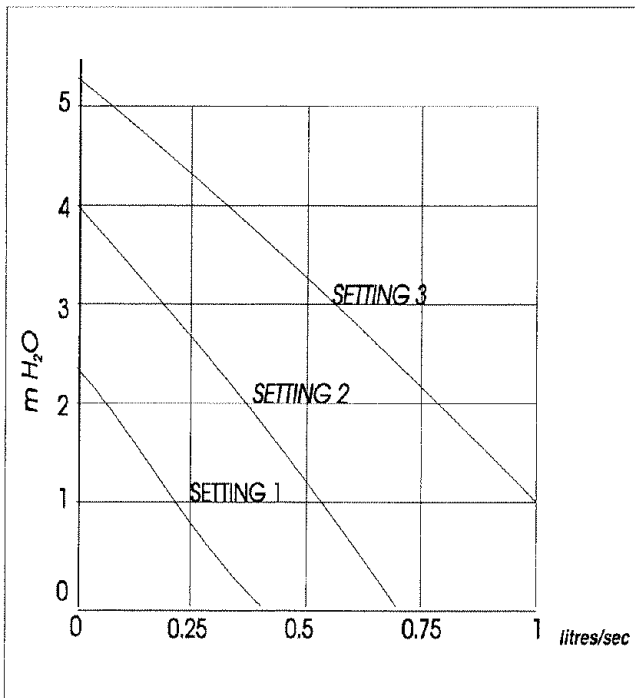

Figure 2.6 Performance Characteristics of Grundfoss UPS 15-50 Pump
7. The performance characteristics of the system pumps is given in Figures 2.6 and 2.6a.